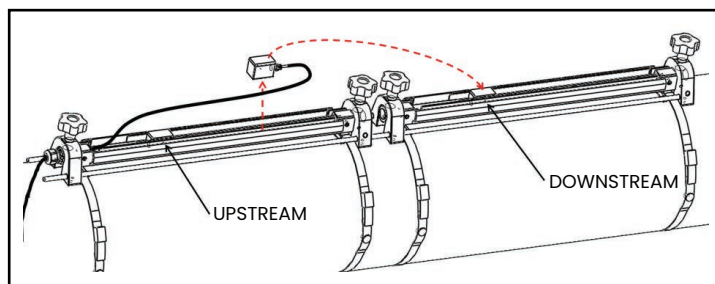

Figure 16: Moving the Downstream Transducer
- b. Remove the downstream transducer from the first fixture (see *Figure 16* below), disconnect the transducer cable, and route the cable into the second fixture. Then, install the downstream transducer into the second fixture and reconnect the transducer cable. If you are using solid couplant, apply it to both transducer faces. Then, rotate the transducers back onto the rail.